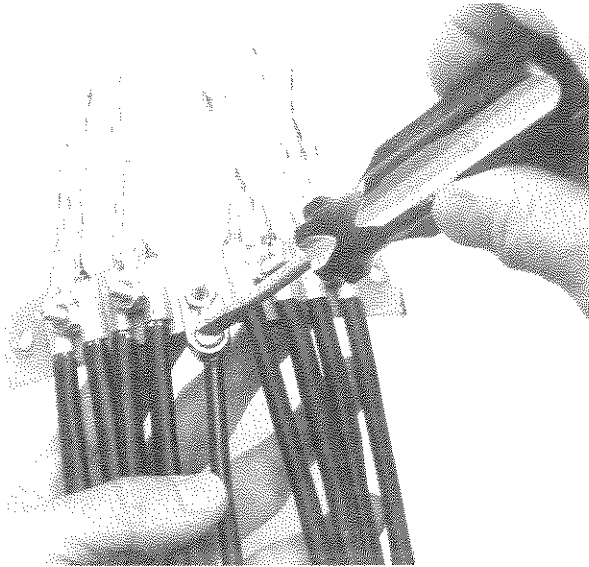

Figure 3
3.03 Strip 1" of insulation from grounding wire and insert into lug. Tighten the screw. See Figure 3.